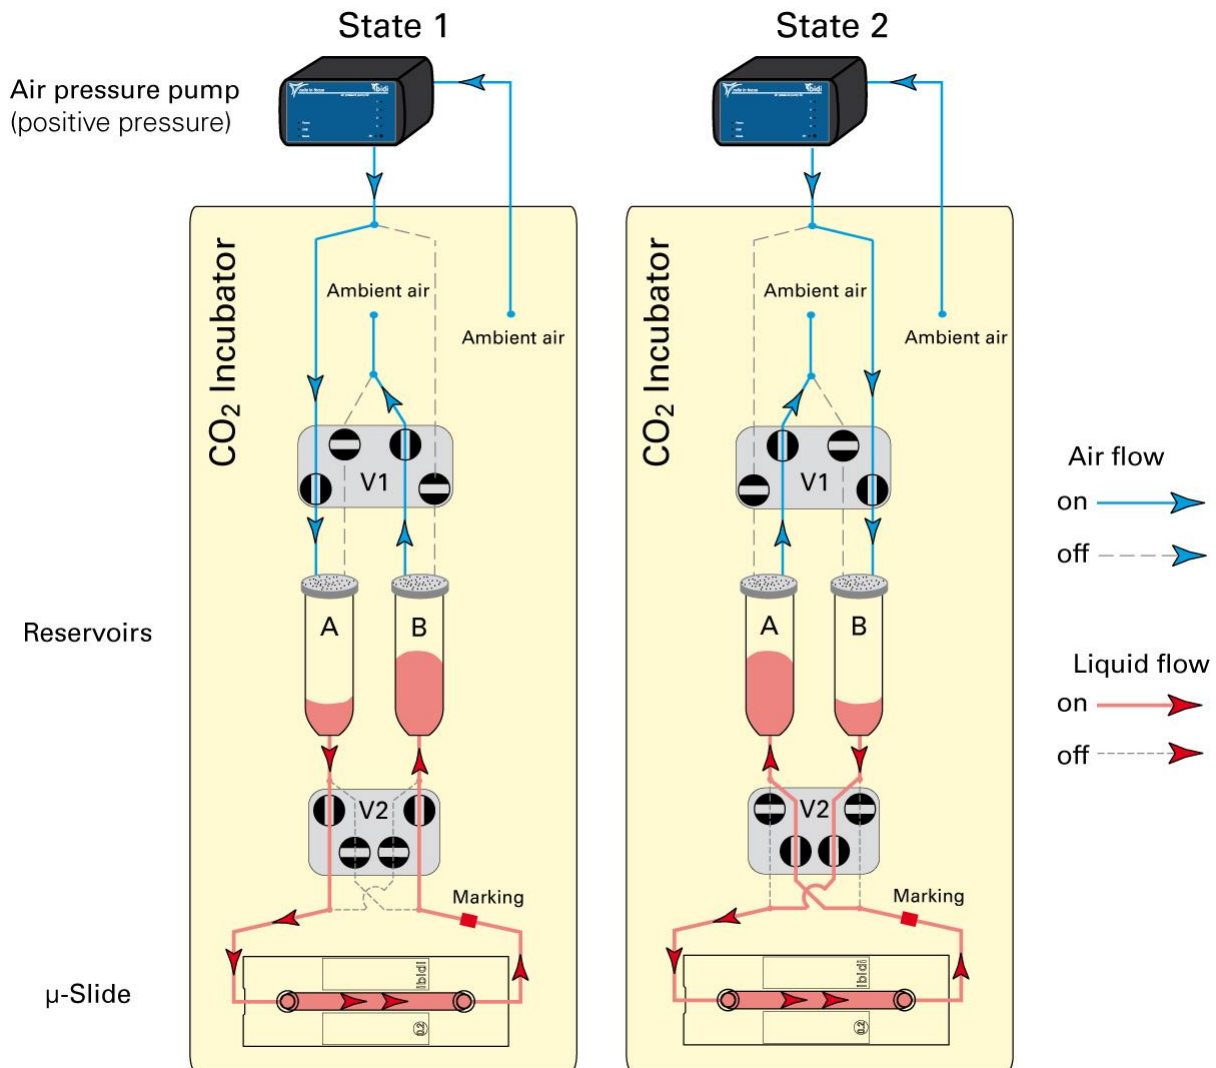
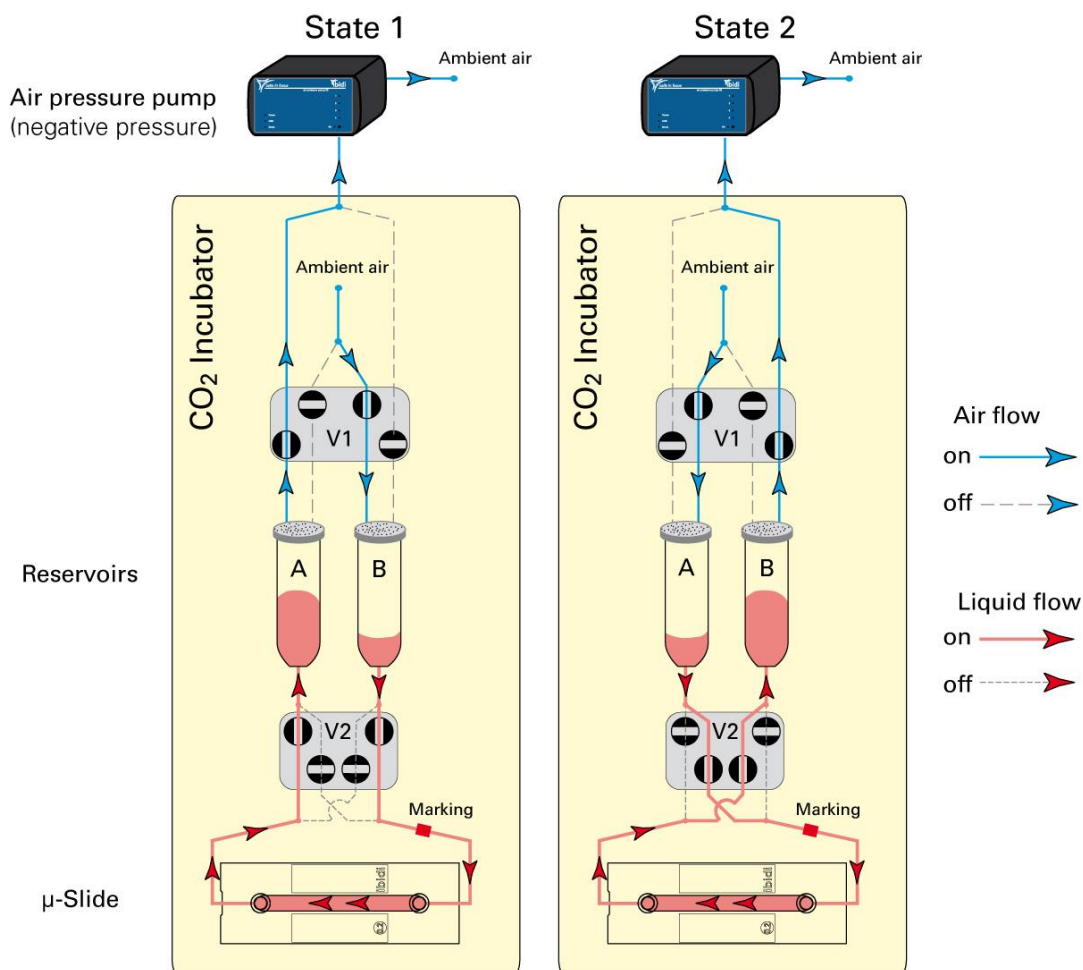

Figure 2: Working principle of the ibidi Pump system using positive pressure
Figure 3: Working principle of the ibidi Pump using negative pressure
In order to have minimal consumption of medium, the liquid is pumped back and forth between two media reservoirs of the Fluidic Unit. The setup is shown in Figure 2 and Figure 3.
tube connecting the μ -Slide as indicated Figure 2. The branch, which is connected to the marked side of the slide, is pinched off. This way the medium is pressed through the μ -Slide from left to right. On the right side the tube branching and the pinch valve (V2) are set such that the open tube is connected to reservoir (B).
In State 2 of Figure 2, valve (V1) is set such that the pressure, which is remaining constant, is directed to the reservoir (B). The liquid is exiting reservoir (B) into reservoir (A). The pinch valve (V2) is now in the opposite state and pinching off the first branch leaving the second open. Again, this results in the medium flowing from the unmarked to the marked tube from left to right. As valve (V2) is in the opposite state, the liquid can now flow into the reservoir (A). This way we create unidirectional flow.
If the system is run with negative pressure, the pump system principle remains the same. However, the flow reverses the direction as shown in Figure 3. The use of permanent negative pressure is not recommended.